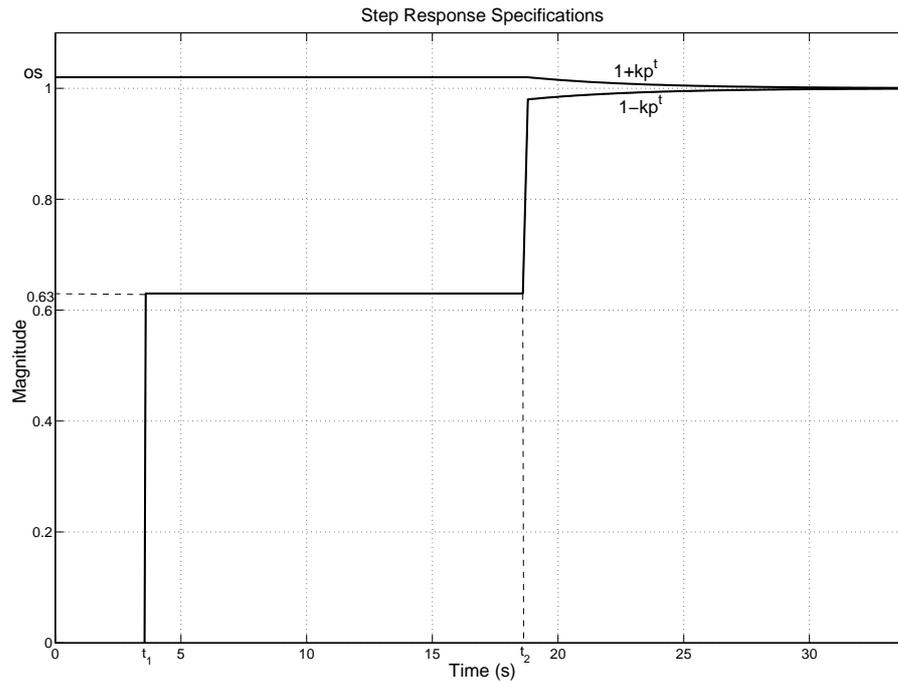

Figure 12.4 Constraints on the closed loop step response from the reference, r , to the position of the first mass, d_1 . os is the maximum allowed overshoot.
- a. Run `spring_mass_problem.m`, read the output (press any key to continue after pauses), and follow the code in the script and try to understand it. The constraints on the unit step response from r to d_1 are visualized in Figure 12.4.